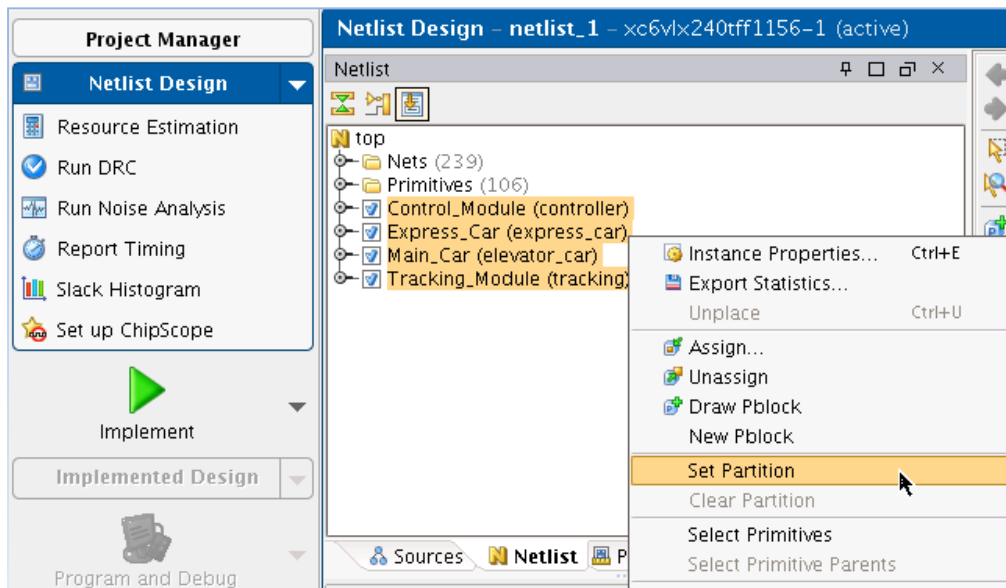

Figure 12: Setting Partitions in PlanAhead
4. Select the module instances to be marked as partitions, right-click and select **Set Partition**, as shown in Figure 12.